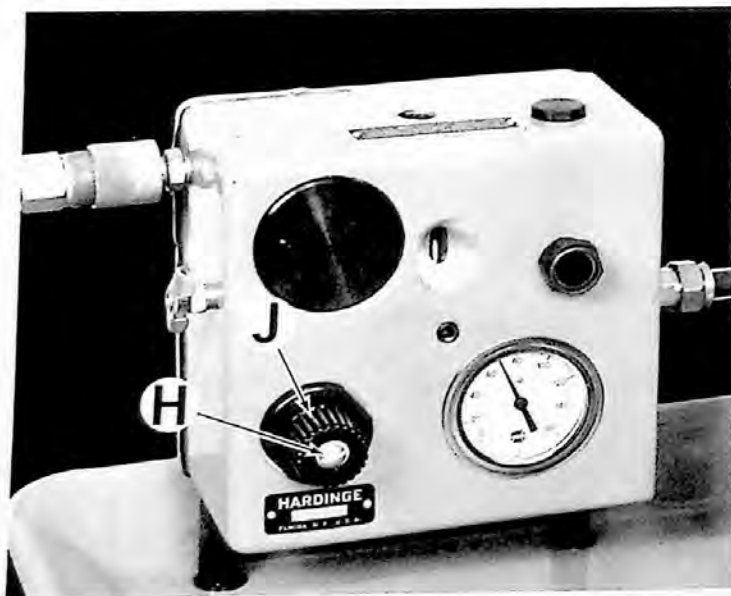

Figure 7 — Lubro-Control Unit
4. Set pressure regulator knob "J", Figure 7 to provide a minimum of 65 pounds and a maximum of 75 pounds of air pressure. Tighten lock screw "H" against control knob to maintain setting.